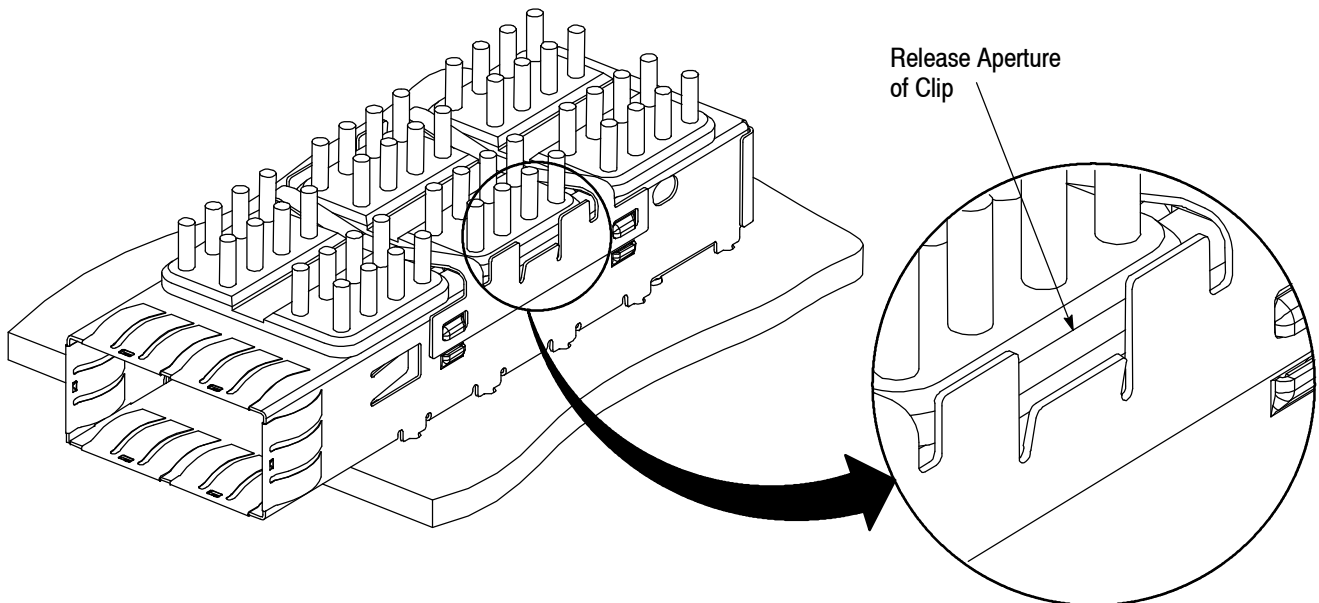

Figure 9
1. Insert the tip of a tool (such as a small screwdriver or hobby knife) behind either release aperture of the clip, and rotate the tool until the corresponding locking windows are released from the attachment latches of the cage assembly. Repeat this step for the remaining release aperture. Refer to Figure 9.